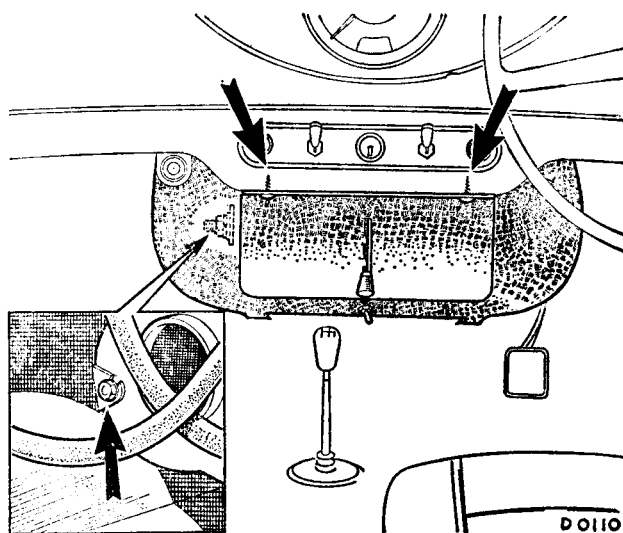

Fig. R.7
6. Slacken the nut securing the rear of the unit to the bracket, and remove the two screws beneath the parcel shelf securing the front of the heater (Fig. R.7). Lift the unit from the slotted rear brackets, hold the fingers over the matrix pipes and lift the unit out of the car. Drain the coolant from the unit.